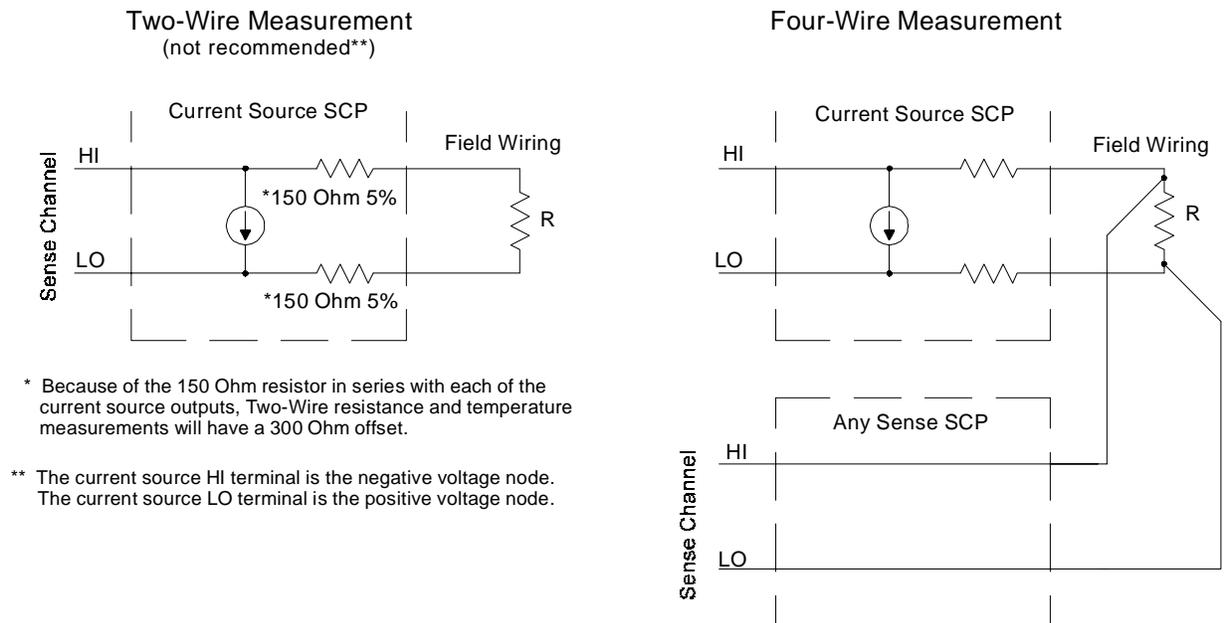

Figure 3-2. Resistance Measurement Sensing
Resistance measurements assume that there is at least one Current Source SCP installed (eight current sources per SCP). See Figure 3-2.
- The *<ch_list>* parameter specifies which channel(s) to link to the resistance EU conversion. These channels will sense the voltage across the unknown resistance. Each can be a Current Source SCP channel (a two-wire resistance measurement) or a sense channel separate from the Current Source SCP channel (a four-wire resistance measurement). See Figure 3-2 for diagrams of these measurement connections.
Temperature measurements using resistance type sensors involve all the same considerations as resistance measurements discussed in the previous section. See the discussion of Figure 3-2 in “Linking Resistance Measurements”.